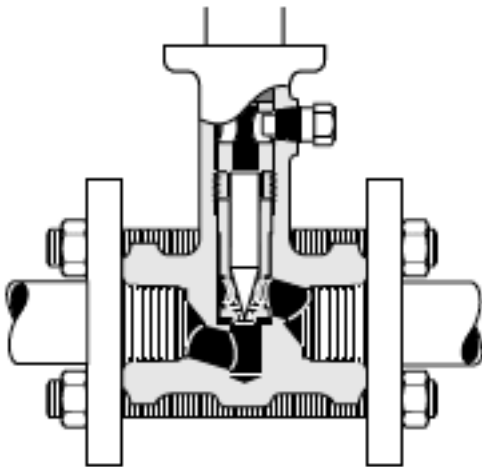

Figure 7 - VariPak flanged connection
3.2 Valve Installation (Figures 7, 8 and 9)
4.5 Positioner Start-Up Pressure Adjustment (Figures 7, 25, 26 and 27)